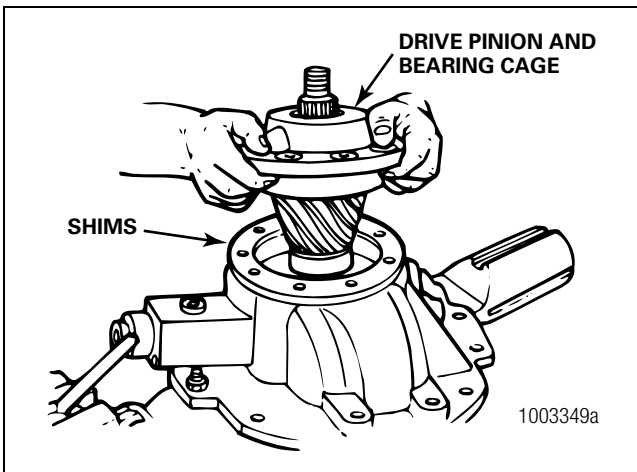

Figure 3.25
- **If the bearing cage is tight in the carrier:** Hit the bearing cage at several points around the flange area with a leather, plastic or rubber mallet. Figure 3.25.